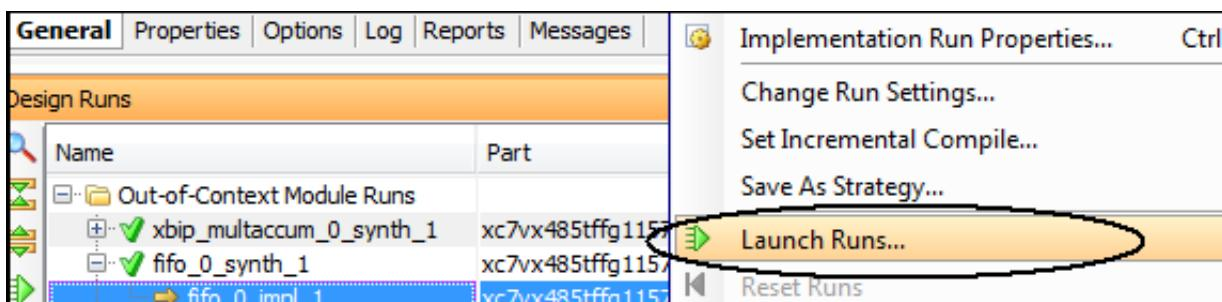

Figure 2-3: Implementing an IP Standalone
1. In the Design Runs window, right-click the IP design run, and select **Launch Runs** to launch the implementation run as shown in Figure 2-3.